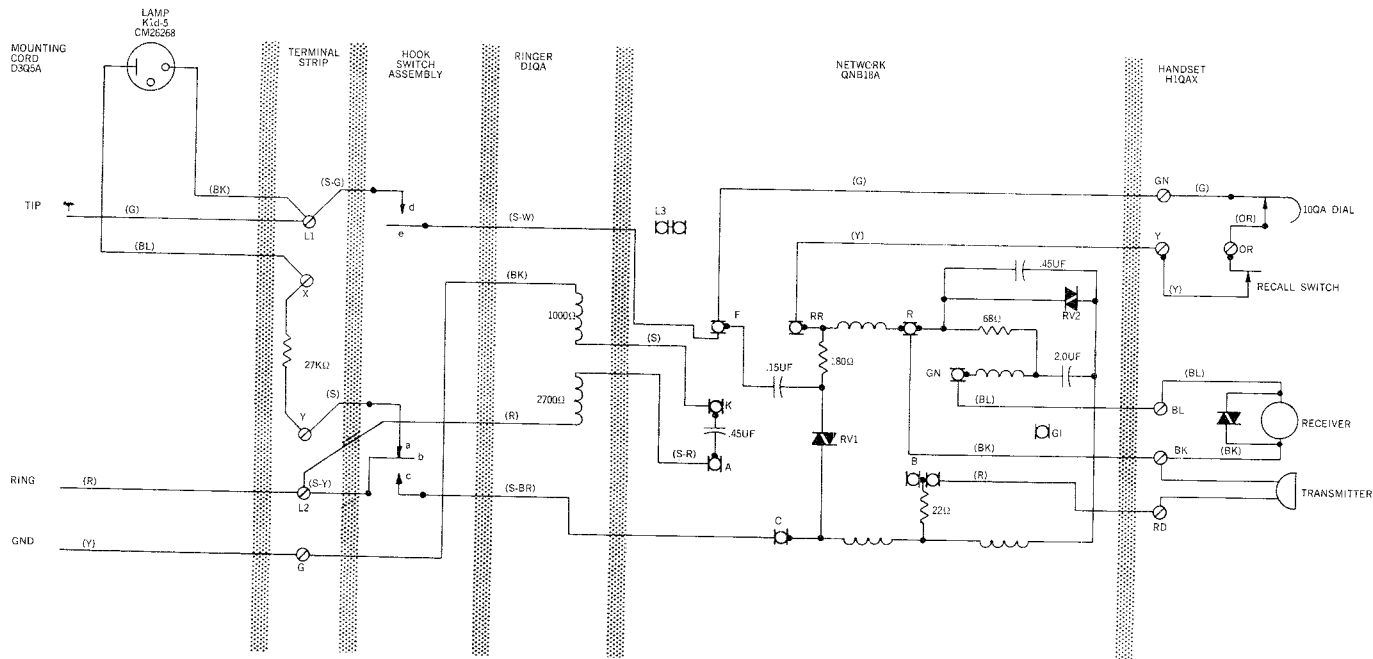

Fig. 2 — QSK 100 BX Schematic
3.01 The connections for the Message Waiting QSK 100 Telephone Set are shown in Fig. 2. See Section 502-321-910 for installation of the Contempra Telephone Set.